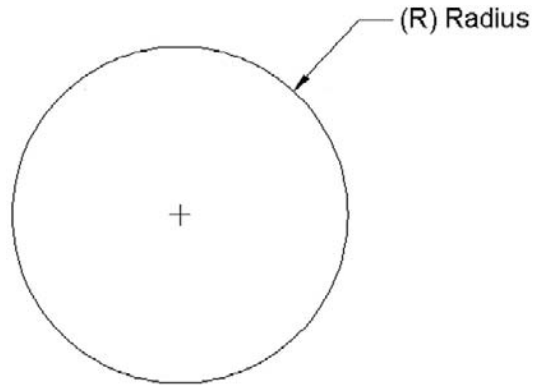

FIGURE 6.5
This is a dimension that measures the radius of a circle or an arc (Figure 6.5).
- Step 1.** Create a small to medium size circle, as seen in Figure 6.5. Then begin the Radius Dimension command via any of the previous methods.